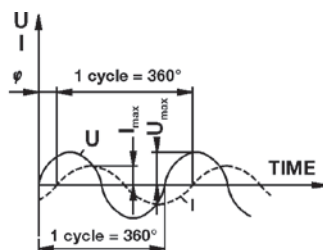
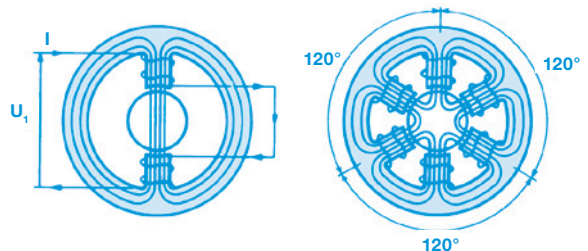

Figure 1.5b
Figure 1.11a
By representing the values U and I in a graph at successive instants, we obtain figure 1.5b. Figure 1.5b also shows some values which will be defined further on. It can be noted that the voltage and current waves are not “in phase”, i.e. they do not pass the zero point simultaneously, notwithstanding the fact that they are of the same frequency. This occurs with many types of electrical loads e.g. electric motors (reactive loads).
Phase displacement means “delay” of the current wave with respect to the voltage wave (see figure 1.5b). Instead of being measured in time (seconds), this delay is usually measured in degrees, corresponding to the fraction of a complete cycle, taking 1 cycle = 360° . However, phase displacement is usually expressed by the angle cosine (see Item 1.2.5 - Power Factor).
a) Figure 1.11a shows a single-phase winding through which flow the current I , and the field H , generated by the current. The winding is composed of one pair of poles, the North Pole and the South Pole, the effects of which are added to produce field H . The magnetic flux passes through the rotor, across both poles and links up with itself by means of the stator core. When " I " is an alternating current, field H is established in the same way, so that its value is represented at every instant, by the same chart shown in figure 1.5b, also reversing its direction at every half cycle. The field H is pulsating, its intensity "varies" proportionally to the current, always in the same direction - North-South.